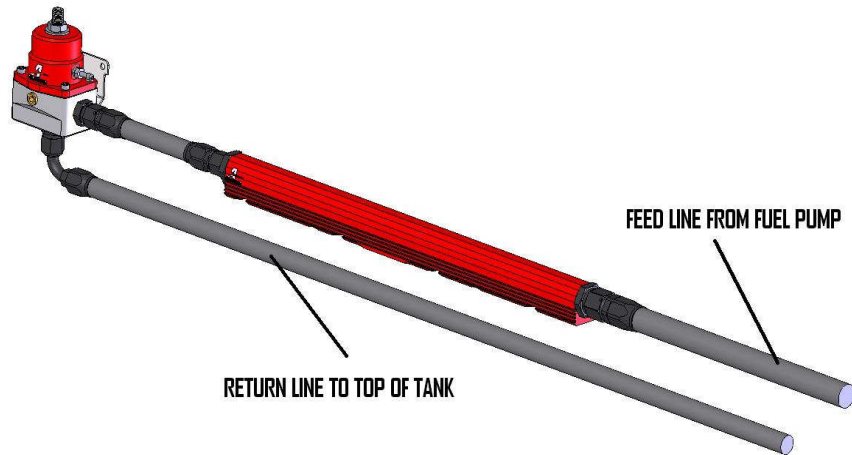

FIGURE 1-3
7. Attach the fuel line(s) from the fuel rail outlet port(s) to the regulator **side** ports using AN-10 (AN-06 if regulator is Aeromotive P/N 13109 or 13159) style fittings and o-rings. If only one inlet/outlet port is required (see figure 1-3 below) install an AN-10 style port plug with o-ring (AN-06 if regulator is Aeromotive P/N 13109 or 13159) into the unused port.
Figure 1-3 is optimum for single rail fuel rail applications equipped with both inlet and outlet ports.